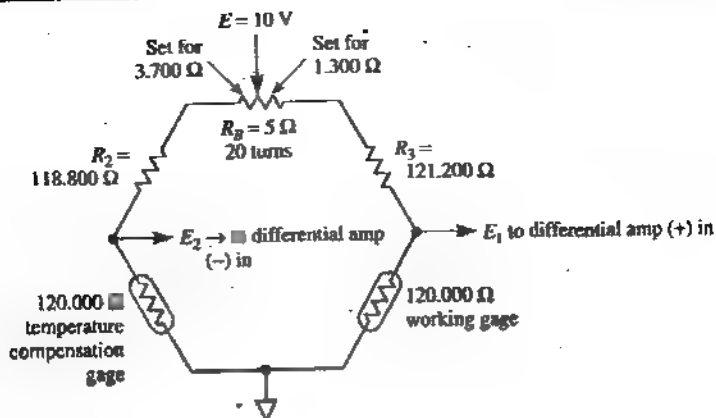

FIGURE 8-14 Balance pot R_B is adjusted in an attempt to make $E_1 - E_2 = 0\text{ V}$
Suppose that you had a working gage and temperature-compensation gage in Fig. 8-14 that are equal to within $1\text{ m}\Omega$. To complete the bridge, you install two 1% , $120\text{-}\Omega$ resistors. One is high by 1% at $121.200\text{ }\Omega$ and one is low by 1% at $118.800\text{ }\Omega$. They must be equalized to balance the bridge. To do so, a $5\text{-}\Omega$, 20-turn balancing pot is installed, as shown in Fig. 8-14. Theoretically, the pot should be set as shown to equalize resistances in the top branches of the bridge at $122.500\text{ }\Omega$.
Further assume that an instrumentation amplifier with a gain of 1000 is connected to the bridge of Fig. 8-14. From Example 8-10, the output of the instrumentation amplifier (IA) will be about 22 mV per miliohm of unbalance. This means that the $5\text{ }\Omega$ pot must be adjusted to within $1\text{ m}\Omega$ of the values shown, so that $E_1 - E_2$ and consequently V_o of the IA will equal $0\text{ V} \pm 22\text{ mV}$.